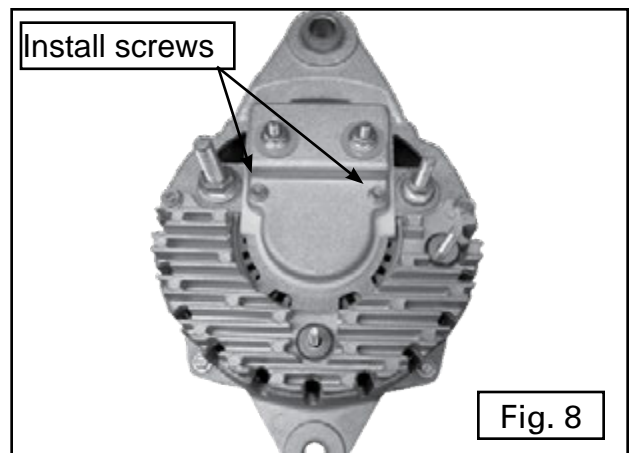

Fig. 8
Step 8: Install two screws holding remote regulator cover to alternator. (Fig.8)